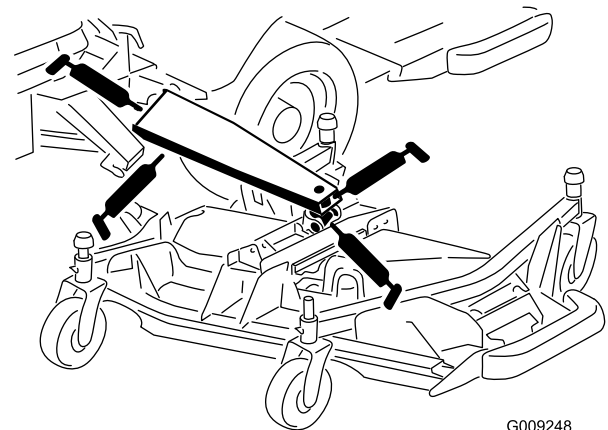

Figure 57
- Main lift arm bushings (3) (Figure 57)
- Lift cylinder bushings (1) (Figure 57)